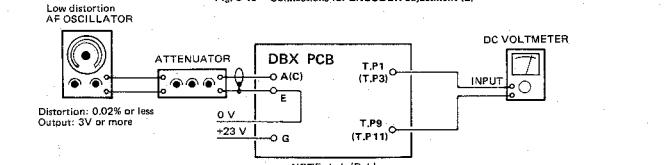

Fig. 5-16 Connections for ENCODER adjustment (3)
6. Like Fig. 5-16, connect a DC voltmeter between TP1 and TP9 for Lch (or TP3 and TP11 for R-ch), then note the reading on the DC voltmeter with an input signal of 1 kHz/-8 dB (308 mV).